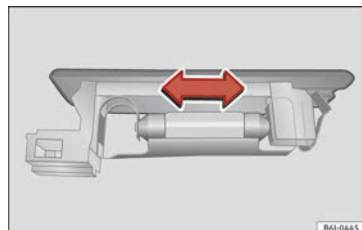

Fig. 103 Boot light.
- Press the bulb sideways and remove it from its housing » Fig. 103.